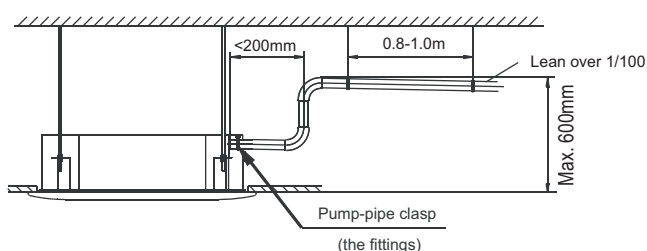

Fig.8-2
7) In case the drainpipe outlet is higher than pumping connective pipe of the main body, the drainpipe must be arranged upwards vertically by using connective assembly of the water outlet for vertical bending, and the height of the drainpipe shall set to the defrosting pan surface no more than 600mm, otherwise, too much backflow while shutdown would leads to overflow (Refer to Fig.8-2).